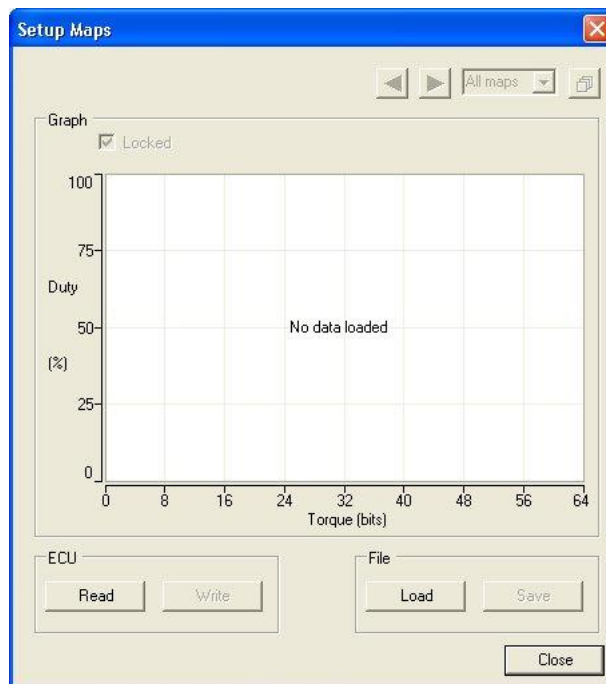

Figure 8 - Setup Maps Dialog (No Maps)
1. Select the **Setup** ➔ **Maps** option from the main menu. The Setup Maps dialog (Figure 8) is displayed.